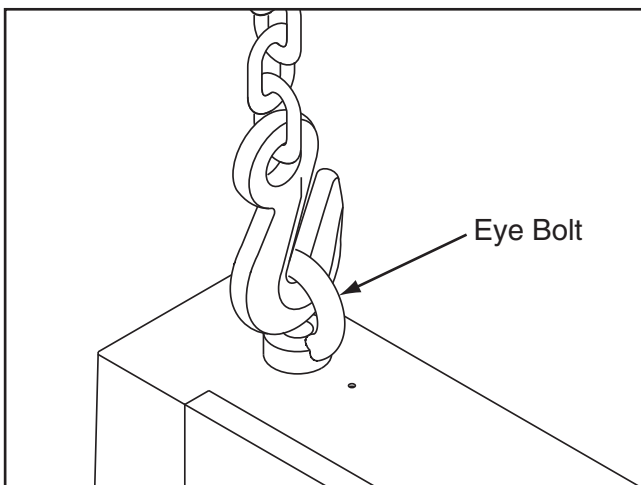

Figure 19. Lifting the bandsaw.
2. Install the eye bolt shown (see **Figure 19**), make sure it is threaded all the way in, then place the lifting hook through the eye bolt and lift the bandsaw slowly with a forklift.